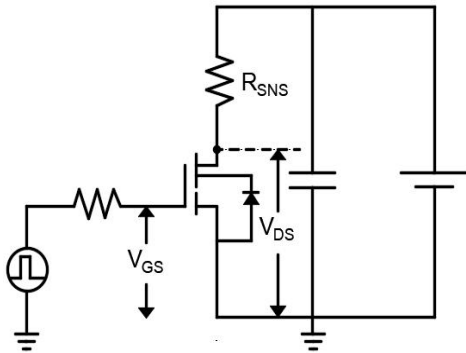

Figure 15. Dynamic $R_{DS(on)}$ Test Circuit
- a. Dynamic on-resistance; see Fig. 15 and 16 for test circuit and conditions